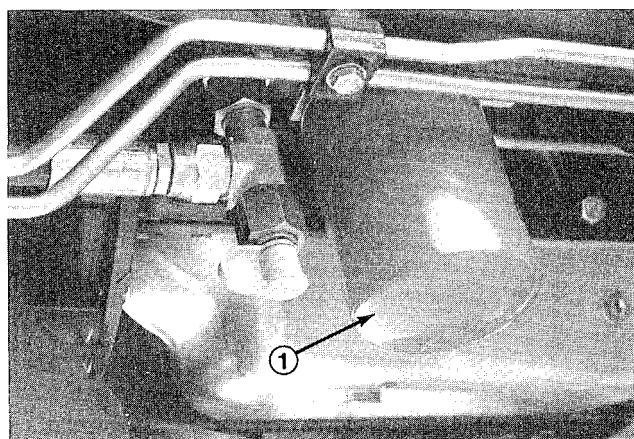

Figure 45
REPLACING HYDRAULIC FILTER (Fig. 45)
2. Clean area around filter mounting area (Fig. 45). Place drain pan under filter and remove filter.